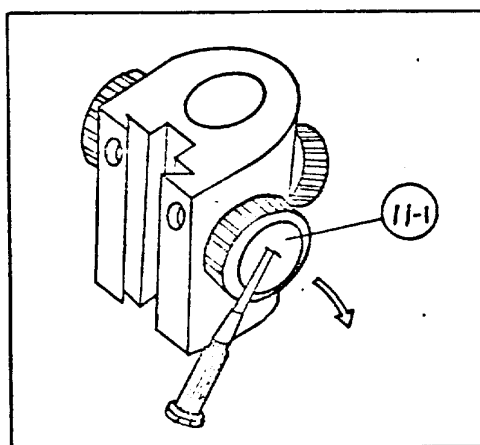

Fig. 66
- 5) Peel of the sticker (11-1) on the focusing knob tearing it by a screwdriver (Fig. 66).